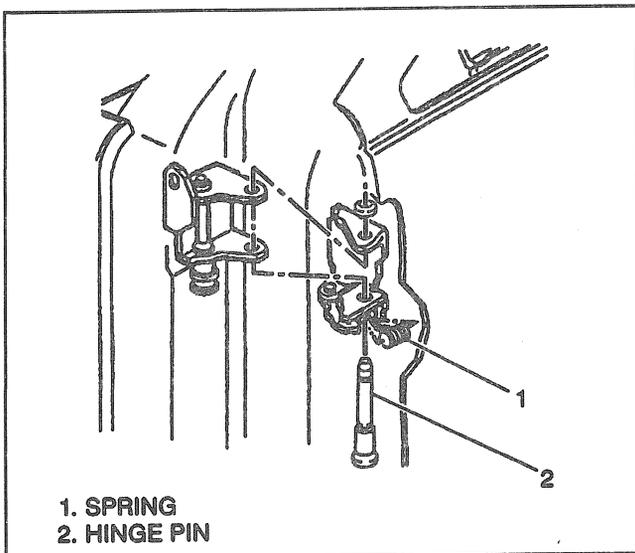

Figure 13—Upper Hinge Pin and Spring
- 5. Lower hinge pin retainer (Figure 13).
- 6. Lower hinge pin using a soft-faced hammer and a pair of locking pliers to grasp the pin and drive it out (Figure 13).
- 5. Lower hinge pin with the pointed edge down (Figure 13).
- 6. New hinge pin retainer (Figure 13).